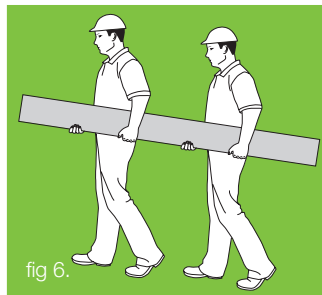

fig 6.
- If two people are carrying the plank, hold it near each end and on edge (figure 6)